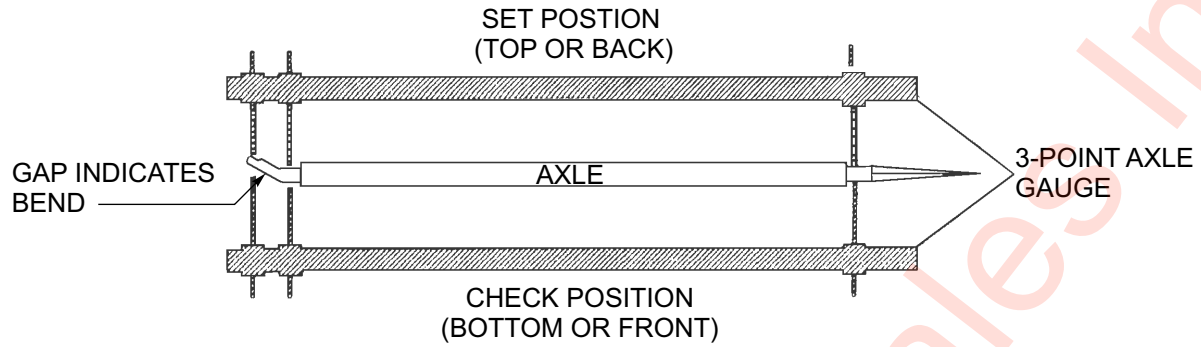

Figure 4-6: Checking Axle for Bend
2. Place a 3-point axle gauge against the front side of the axle, and adjust each axle gauge point to the axle. (Double point end against the inner and outer wheel bearing surfaces of the spindle being checked and the other point on the inner bearing surface on the other spindle **(See Figure 4-6.)**)
3. Move the axle gauge and place against the back side of the axle. If either of the points of double point end fails to touch the axle surface, a bent spindle is evident. A point gap of .015" or more is considered excessive tire "toe" and the axle must be replaced **(See Figure 4-6.)**
5. Measure (D1) to the other end of the axle in the same manner as in **step 4**. Record this measurement (See Figure 4-6.)